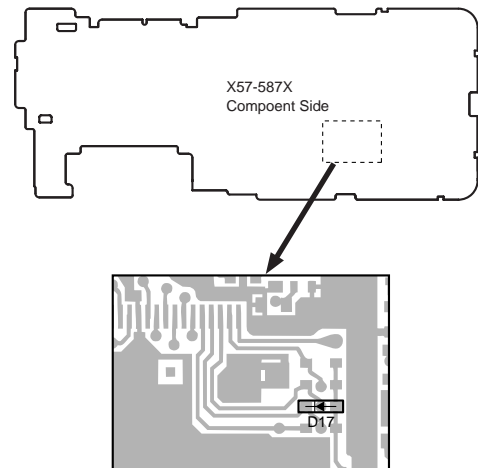

Fig. 3
Remove D17 from the TX-RX unit (Figure 3) (E, (N)E, models only). Hold down the [Side1]+[●] switches and turn the power switch on.